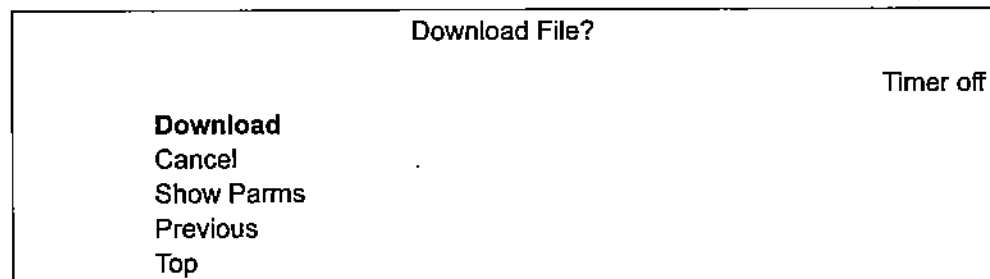

Figure F-5. Download File? Menu
6. **Initiate Download** - see Figure F-5. The *Download File?* menu is displayed. Select *Download* using the **C** button (Select/Action) to initiate the OS Upgrade.